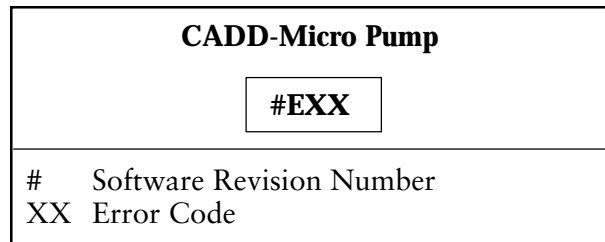

Figure 8. Error code display.
3. At the next power-up and each subsequent power-up thereafter (until the pump is serviced), the microprocessor will write a software revision, plus an error code in the EEPROM. Four characters will appear on the LCD; the first character indicates the software revision number, the second character "E" represents an error has occurred, and the remaining two characters indicate the error code number. (See Figure 8.) These four characters will remain in memory and will appear on the LCD upon each power-up until another fault occurs. (See "Testing Procedures" in this manual for detailed instructions regarding the power-up check.) The CADD-Micro pump records the last three internal faults detected by the microprocessor.